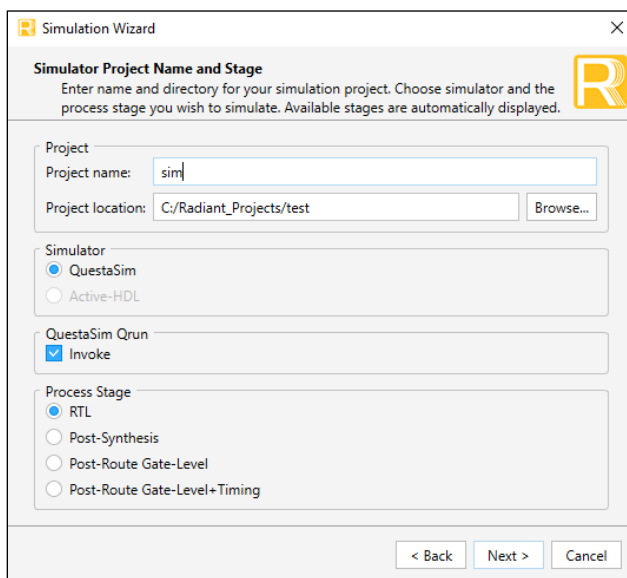

Figure 5.4. Simulation Wizard
1. Click the  button located on the **Toolbar** to initiate the **Simulation Wizard** shown in Figure 5.4.